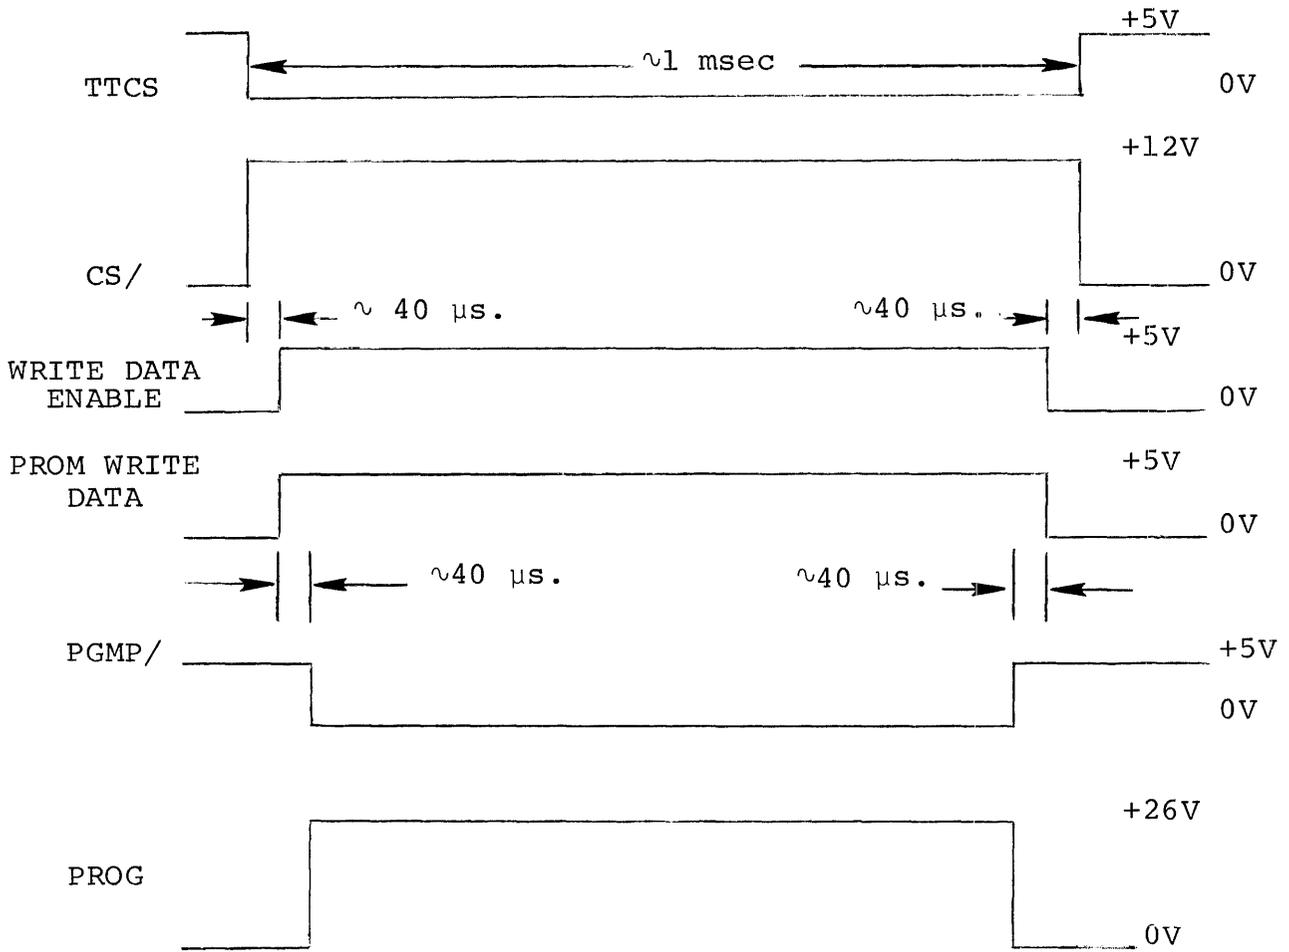

FIGURE 4-3
- 6) The High Voltage Drivers perform the actual PROM programming. The CS/ driver is a high voltage open collector gate which when deactivated by TTCS allows CS/ to rise to programming level (12V). The program pulse (PROG) is generated by a 3-state transistor driver circuit. The PROG line (pin 82) is driven to 26V during the programming operation. During read operations, the PROG line is grounded (see Figure 4-3). (For compatibility with future devices that will also be programmed by the UPP-878 Personality Card, the "float" during read" function can be enabled with the switch at S1-3.)
- 2) The signal TTCS is switched from high (which indicates read) to low (indicating program). This transition causes CS/ to be pulsed as shown on the timing diagram, Figure 4-3.